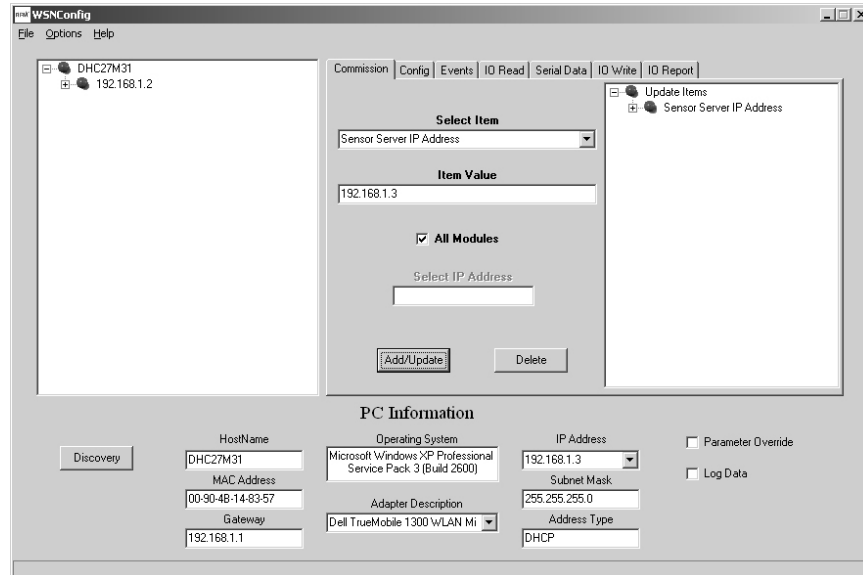

Figure 4
7. Select *Sensor Server IP Address* from the *Select Item* drop-down box on the WSNConfig.exe *Commission* tab. Enter the IP Address from the *PC Information* area in the *Item Value* text box. Then click the *Add/Update* button. See Figure 4. This action configures the WSN802G module to periodically send its I/O data to the PC.